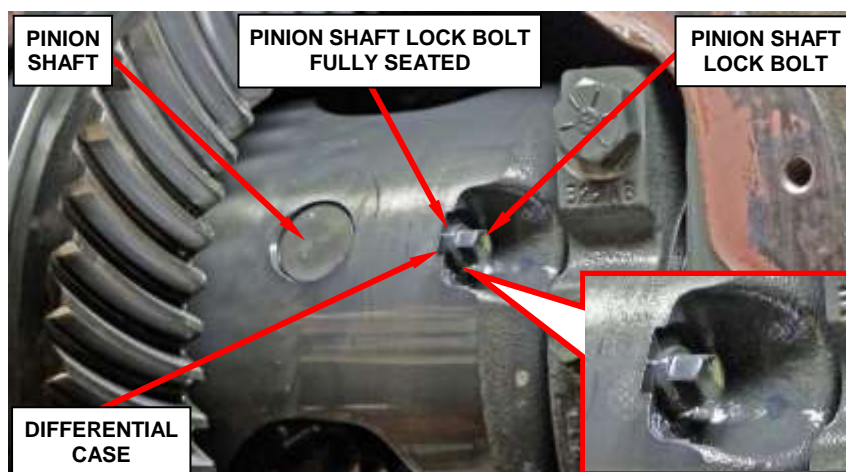

Figure 7 – Pinion Shaft Lock Bolt Fully Seated Against Differential Case
12. Inspect the pinion shaft lock bolt and compare the bolt with (Figures 7, 8, 9) then perform the appropriate action below:
➤ If the pinion shaft lock bolt is fully seated against the differential case as shown in (Figure 7), continue with **Step 13**.